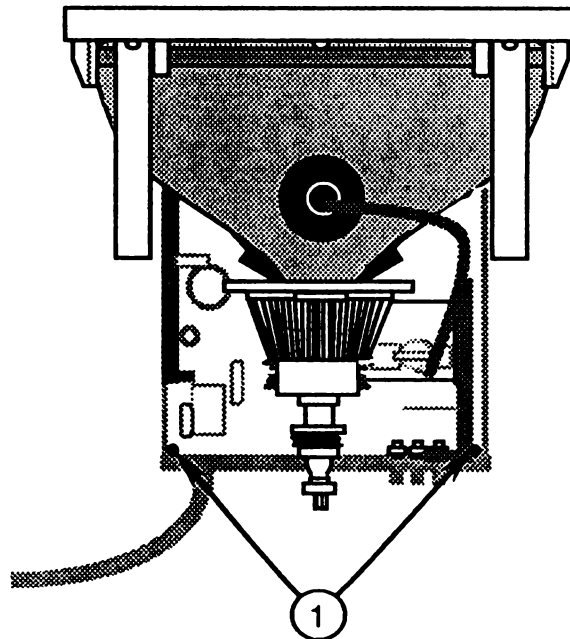

FIGURE 41
14. Remove the two screws (Figure 41, #1) that secure the back panel to the main logic PCB.